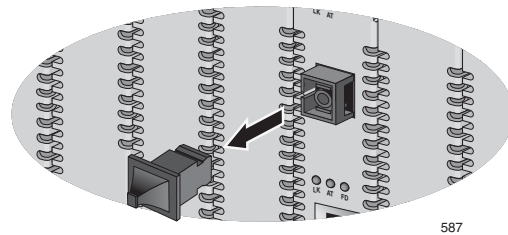

Figure 29. Removing the Dust Cover from a Simplex SC Fiber Optic Port
1. Remove the dust cover from the fiber optic port, as shown in Figure 29.